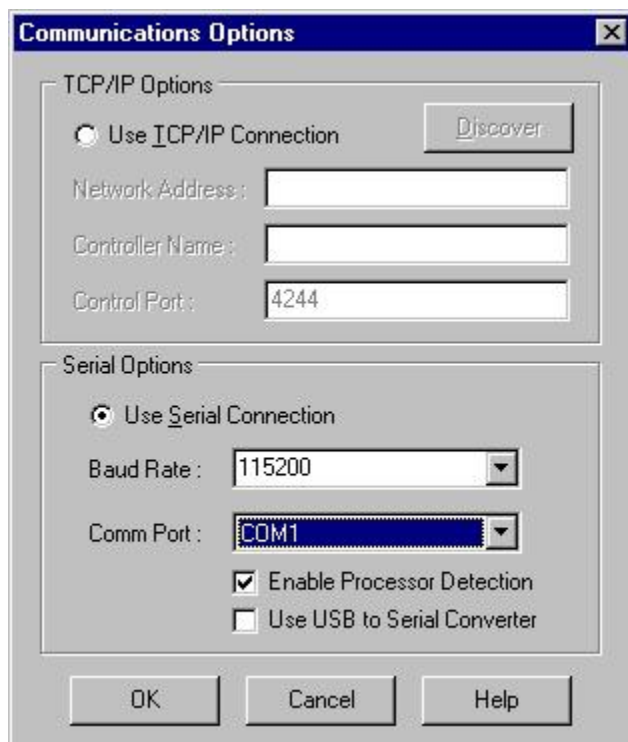

Figure 1-13. Communications Options Window.
3. On the Communications Options window (Figure 1-13), in the Comm Port field, select the COM port on the computer that is connected to the autosampler. Press the OK button.